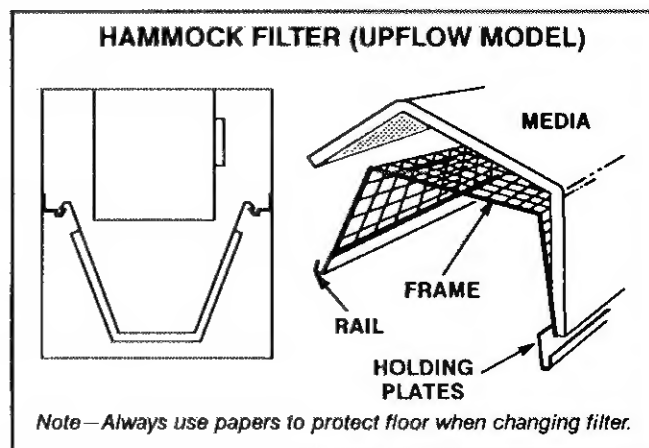

FIGURE 9
- 3- Slide hammock filter assembly from unit. See figure 9.